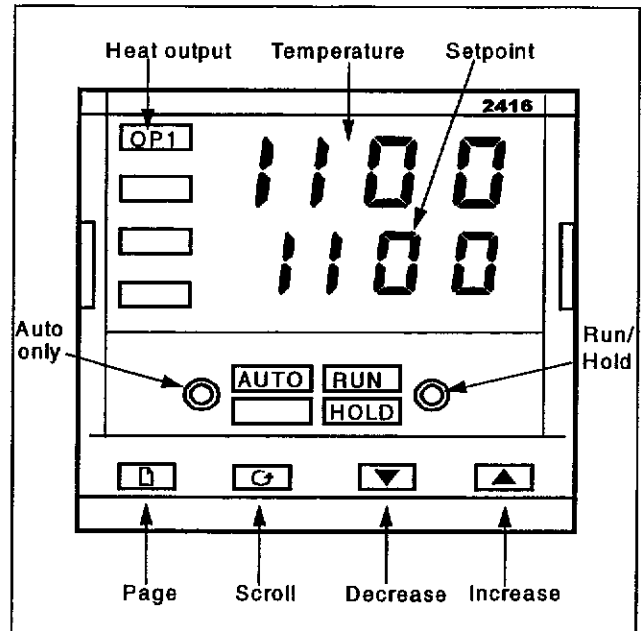

Figure 4. 2416 Control Panel
2. Use the arrow keys to adjust the setpoint to 550°C (refer to Figure 4 on the next page).
The 2416 controller includes an LED display and a pushbutton keypad (see Figure 4). You can use the Page, Scroll, Increase and Decrease buttons to check program status and to view and change pid settings and other parameters. When you are not using the pushbutton keypad, the upper display always shows process temperature and the lower display shows the current temperature setpoint value. This is the default, or Home, display.